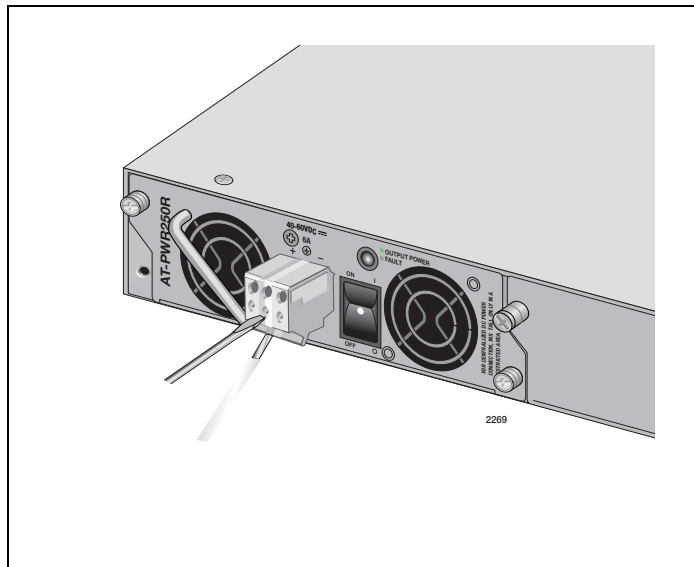

Figure 35. Inserting Wires into a DC Terminal Block
5. Insert the power supply ground wire into the middle connector of the DC terminal and tighten the connection with a flathead screwdriver, as shown in Figure 35 on page 75.